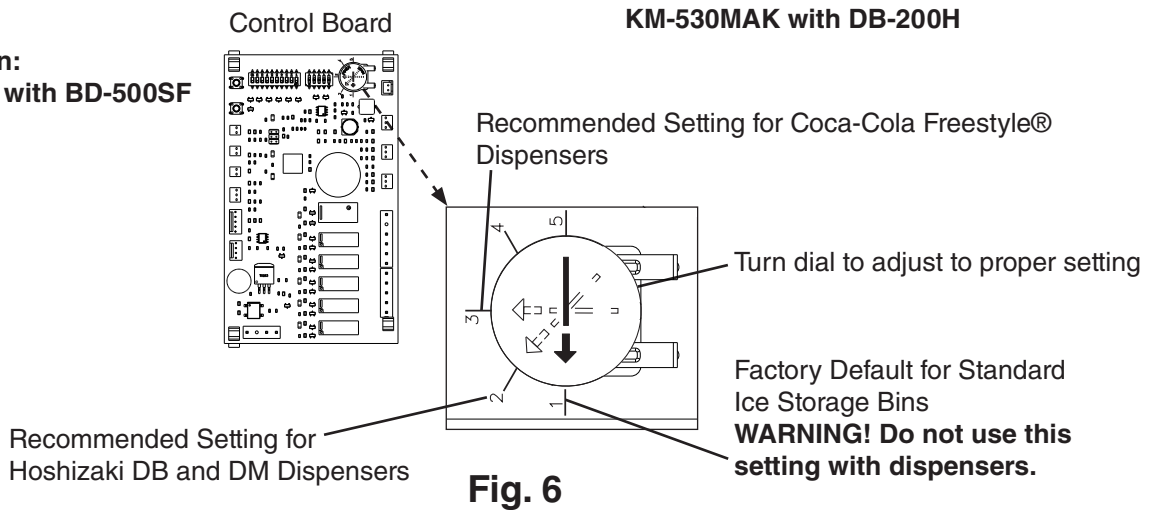

Fig. 6
b) KM-330_530_730MAK, KM-930MAK2, and KM-1130MAK2. See Fig. 6.